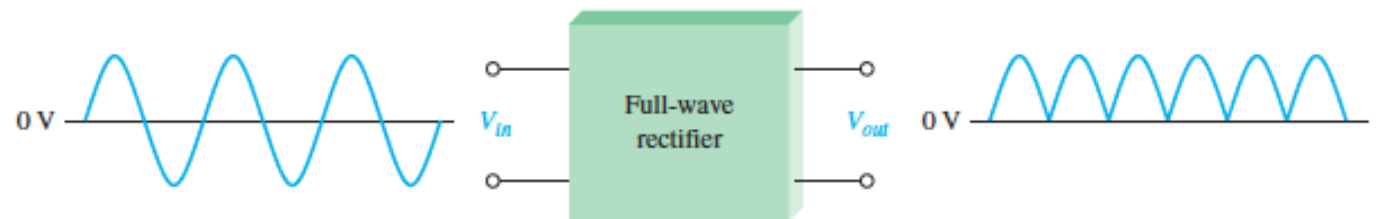

Fig.7: Full Wave Rectifier
- A full-wave rectifier allows unidirectional (one-way) current through the load during the entire of the input cycle, whereas a half-wave rectifier allows current through the load only during one-half of the cycle. The result of full-wave rectification is an output voltage with a frequency twice the input frequency and that pulsates every half-cycle of the input, as shown in Figure 7.